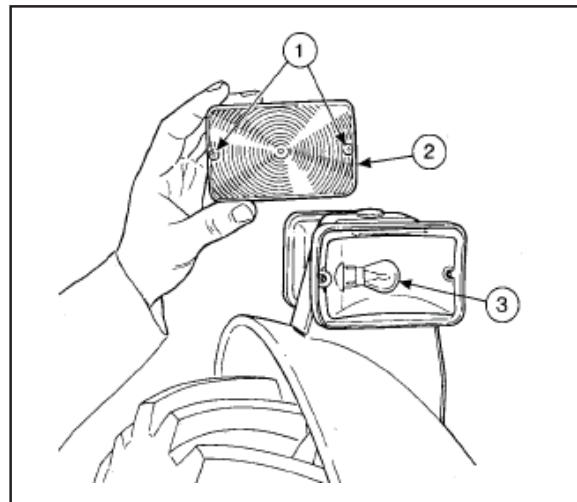

Fig.142
2. Loosen the screws (1, Fig. 142) and remove the lens (2).
3. Remove the failed bulb (3) from its fitting.